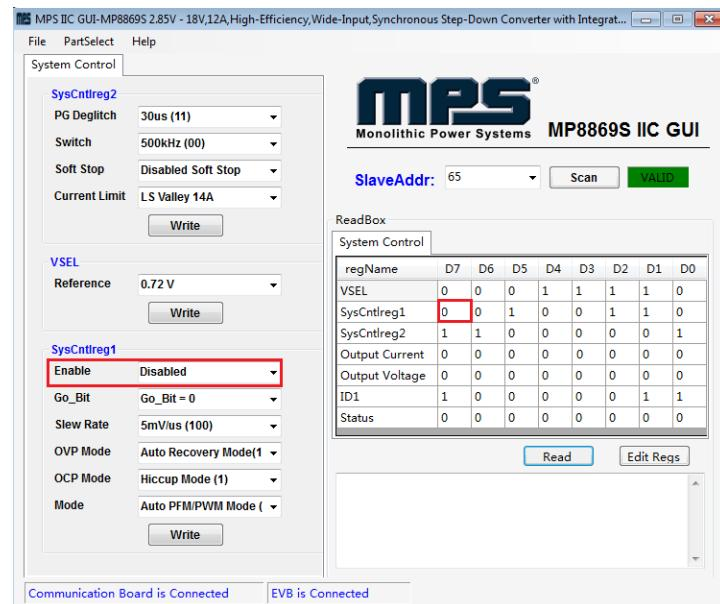

Figure 10: Refer to Datasheet to Translate 0's and 1's
5. Click the **Read All** button to update values. The changed information of the item will appear on the right side (see Figure 10).